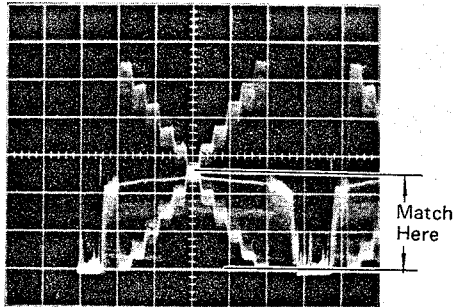

Fig. 6-4-32
- Connect the oscilloscope to TP307 (B) and TP309 (YL).
- Overlay the YL signal and the B signal on the oscilloscope, and adjust BLUE GAIN PRESET VR317 so that signals match in the lower half of the gray scale. (Fig.6-4-32)